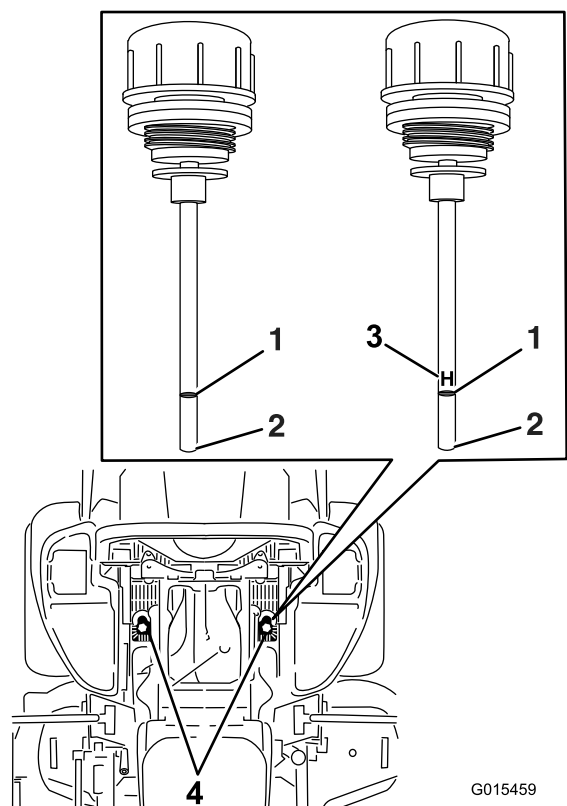

Figure 92
6. Clean the area around the dipsticks of hydraulic-system reservoirs (Figure 92).
7. Remove 1 dipstick from the hydraulic reservoir (Figure 92).
9. Remove the dipstick and look at the end (Figure 92).